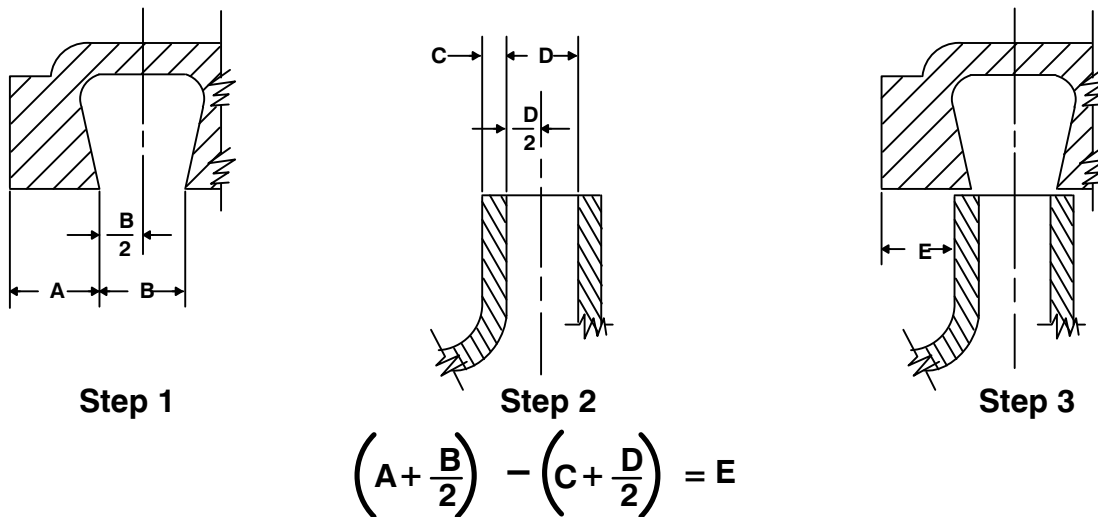

Figure 3. Centering Impeller Within Vane Plate Scroll
To verify the impeller positioning, measure the vane plate and impeller as shown in Figure 3. Use these measurements to calculate the required impeller location (dimension E). Add or remove impeller adjusting shims (14) until dimension E is obtained.